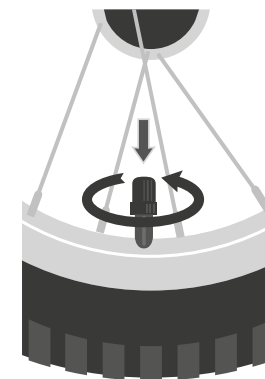

Figure 1. Child-resistant Valve Cap
1. Inflate tires to the recommended pressure located on the tire sidewall using a bicycle pump. Note: The valve caps are child resistant; push down and turn counterclockwise to remove (see fig. 1).